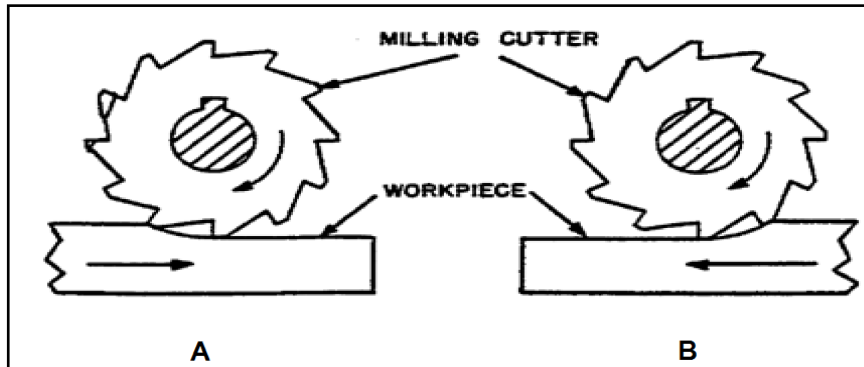

FIGURE 5
12.1 FIGURE 5 below shows two milling processes.
12.1.1 Name the TWO milling processes marked A and B in FIGURE 5.